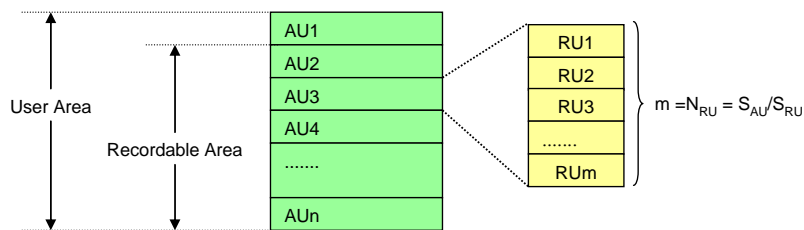

Figure 4-7 : Definition of Allocation Unit (AU)
4.13.1 Allocation Unit (AU)
User Area is divided into units called "**Allocation Unit (AU)**" (Refer to Figure 4-7). Each card has its own fixed **AU Size (S_{AU})** and the maximum AU Size is defined depending on the card's capacity. The host should manage data areas with the unit of AU. Several AUs from AU1 should not be used for real time recording because those may include system information. AV application should start recording from the first complete AU, to which only user data can be recorded. Note that this specification does not apply to Protected Area.
4.13.2 Recording Unit (RU)
Each AU is divided into units called "**Recording Unit (RU)**" (Refer to Figure 4-7). The **RU Size (S_{RU})** should be one or multiple of cluster size specified in the SD File System Specification. **The number of RUs in an AU (N_{RU})** is calculated from S_{AU}/S_{RU} .